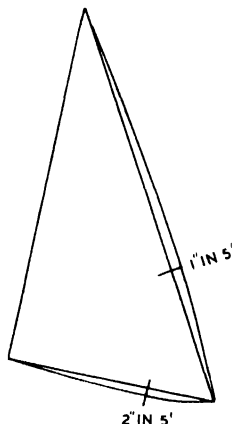

FIG. 7. Floor plan of the foresail.
on a floor the actual size and shape of a sail before stretching (see Chapter 3 for stretching allowances) (Fig. 7). Choose, if possible, a wooden floor into which prickers may be pressed, though any other floor of sufficient size may be used. Having calculated the unstretched measurements of the sail, draw these as
**Foot** — measure from the tack one-third of the length of the foot, and at this point measure outwards 2 in. for every 5 ft. length of foot. Join the tack and clew by a smooth curve passing through this point in the same way (Fig. 7). Now bisect exactly the clew angle, so that the bisecting line cuts the curved line of the luff. This line represents the last seam.